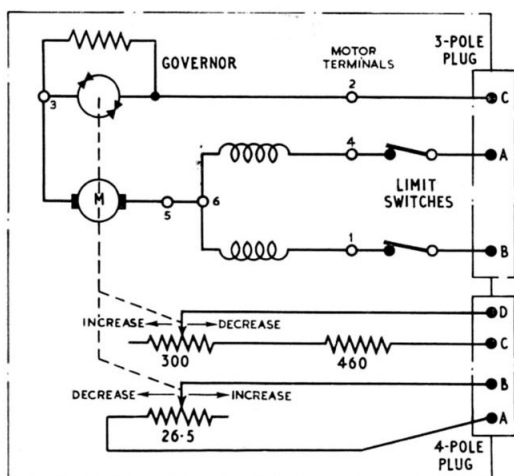

Fig. 2. Circuit diagram
7. A circuit diagram is given in fig. 2. When a 24-volt d.c. supply is connected across pins A and C of the 3-pole plug, the motor will run in a clockwise direction. This will drive the cam stop disc and the potentiometer gang concurrently until resistance values of